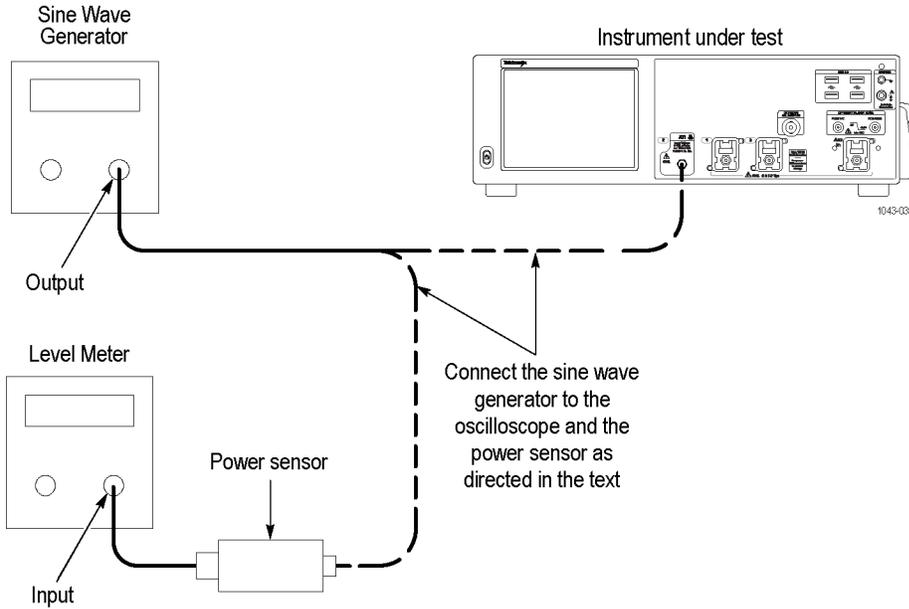

Figure 18: Channel bandwidth test hookup
- b.** *Hook up the test-signal source:* Connect the sine wave output of the sine wave generator to **Ch 2**. Set the output of the generator to a reference frequency of 100 MHz. (See Figure 18 on page 148.)